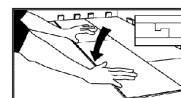

Figure 14
- Carefully push the board down until tongue and groove lock together on the side and ends (Figure 14).